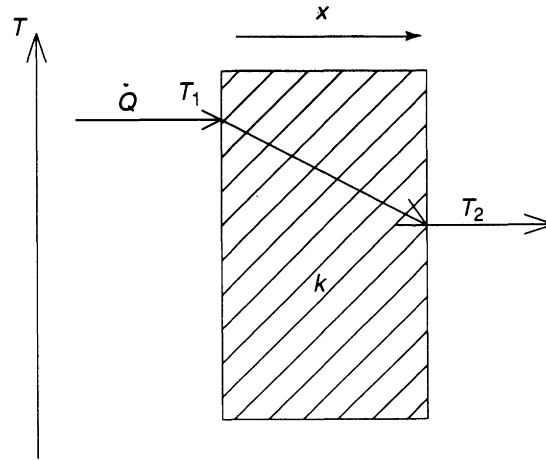

Figure 6.12 Single layer wall
Usually heat transfer calculations involve **heat transfer rate** rather than just heat transfer because in engineering the rate of energy supply is important. In this case, the symbol for heat has a dot above it to show that time is involved. Heat transfer  $Q$  is expressed in joules (J). Heat transfer rate  $\dot{Q}$  has units of joules per second (J/s) or watts (W). Consider heat flow through a flat wall (see Figure 6.12).